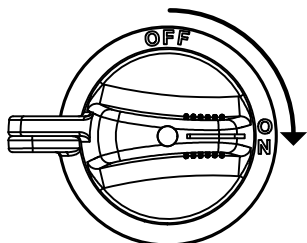

Figure 37. Battery Switch (ON)
2. Set the **Battery switch** (Figure 37) to the **ON** position.